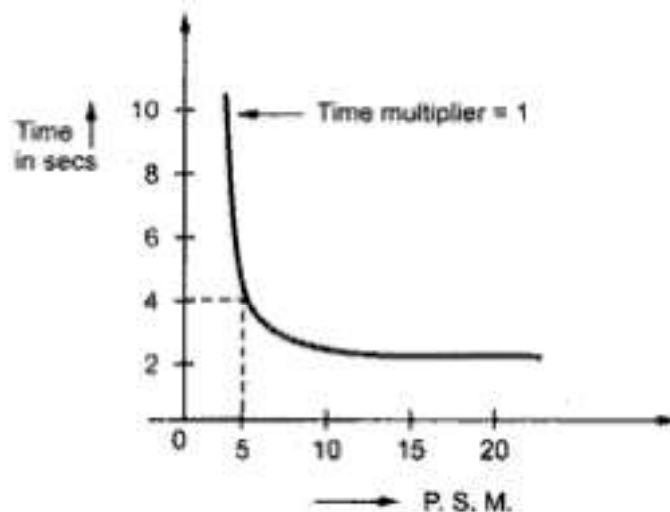

Fig. 2.24 Relay characteristics
17. An I.D.M.T. overcurrent relay has a current setting of 150% and has a time multiplier setting of 0.5 . The relay is connected in the circuit with the help of C.T. having ratio 500 : 5 A. Calculate the time of operation of the relay if circuit carries a fault current of 6000 A. The relay characteristics are given in the Fig. 2.24.